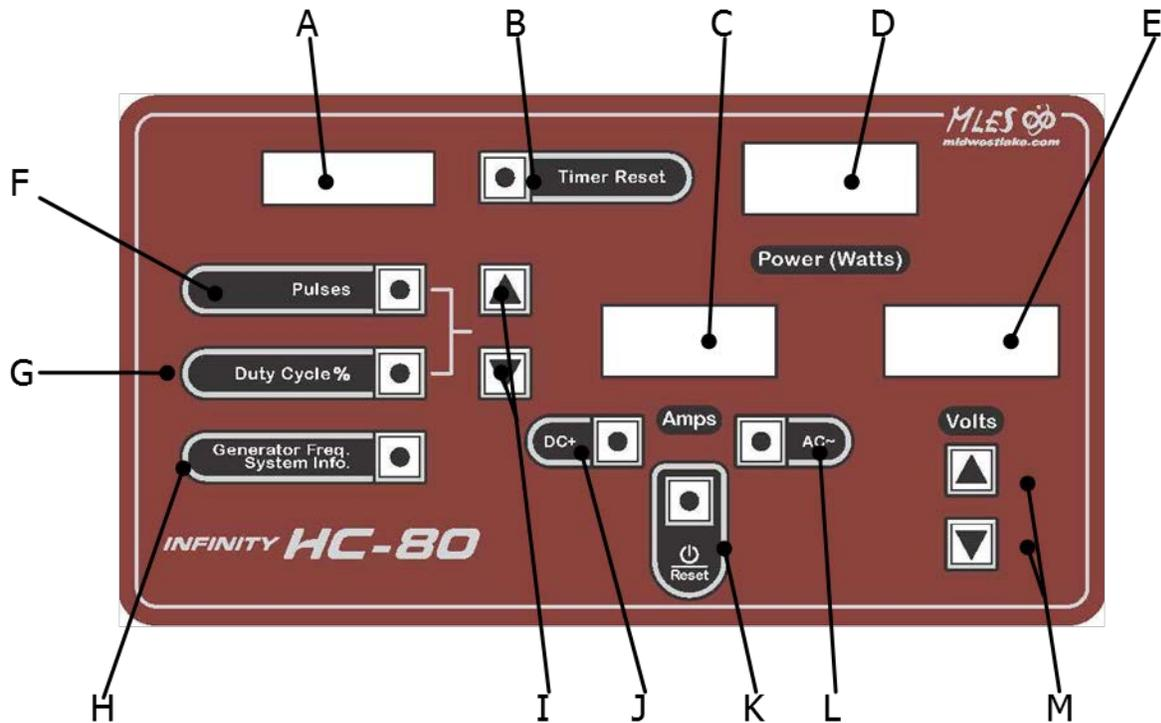
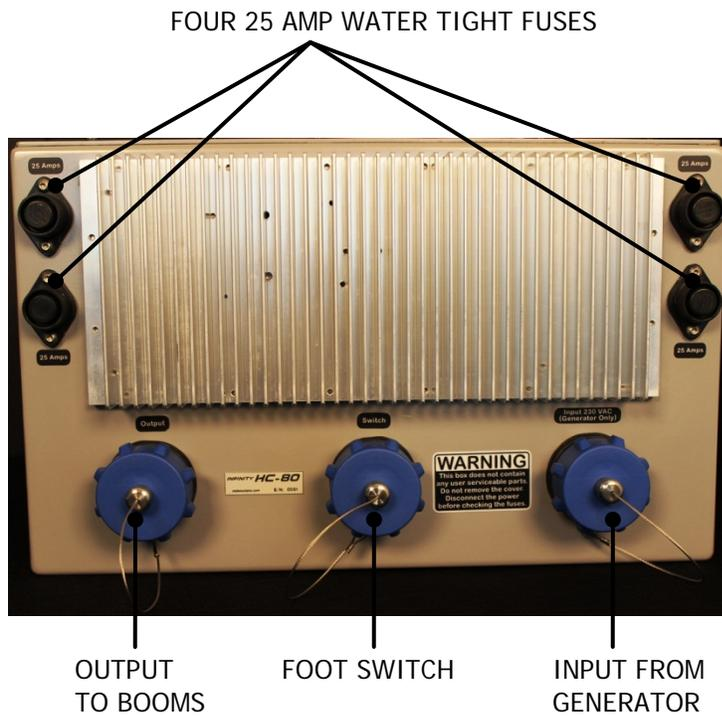

Figure 2. HC-80 control panel functions and locations.
Figure 3. Rear Panel of HC-80 Box.
- Remove dust caps. All cords (input, switch, and output) must be plugged into the rear of the MLES HC-80 and firmly tightened (Figure 3).
- The generator must be started and increased to full RPM's to reach an output of 60Hz and 240 volts. The main breaker of the Box must be placed in the up (ON) position.
- When the Box is turned on, "Fishing Time" will appear in display (A). Generator output can also be monitored in display (A). Use the select button (H) to scroll the display to monitor generator frequency output and voltage. Please reference Figure 2 for button locations.
- Select the desired waveform output type DC+ (J) or AC~ (L).
- Preset desired level of "Pulses" by pressing select button (F) then increase or decrease with select button I.
- Preset desired "Duty Cycle %" by pressing the select button (G) then increase or decrease with select button (I).
- If desired, preset the voltage by pressing (M) to increase or decrease the volts (voltage shown in display E).
- If desired, preselect a voltage range (Low Range Ceiling or Automatic). Press (H) to select set voltage range function, then press (I) to select desired range. Refer to **Advanced Operation** in the following section.
- If desired, eight programmable electrofishing settings can be saved and recalled (waveform - AC or DC, duty cycle, pulse rate, and volts). Press (H) to scroll to save and recall shown in (A), then press (I) to save and recall settings. Refer to **Advanced Operation** in the following section.
- Reset fishing time with the "Timer Reset" button (B) when appropriate.
- Press the Reset button (K) and "Emergency Stop" will illuminate. Dashes will appear in the Power (D) and Amps (C) displays. Volts (E) will display set voltage.
- If Volts (E) flashes and the systems info display (A) reads “Overload Fishing Voltage Reduced” there is a potential overload and you must step off the foot switch. The MLES HC-80 will automatically reduce the voltage to a safe setting and then return to the set voltage. Use the (M) select button to reduce the voltage to a safe setting.
- If more power is needed to effectively sample, continue to increase voltage until the volts display (E) flashes. When the voltage approaches the upper limit of a specific range, the system information display (A) will indicate that a “shift is in progress.” This will momentarily lock out the user as additional capacitors engage to facilitate the voltage range shift. Once the bank of additional capacitors come online, the box will resume normal electrofishing functions.
- When an incremental adjustment is made with the increase/decrease buttons (Figure 2), the symbol "▲" will appear in the top left corner of the display windows (Power, Amps, Volts). It appears for a change in pulses, duty cycle, dimmer level, and volts.